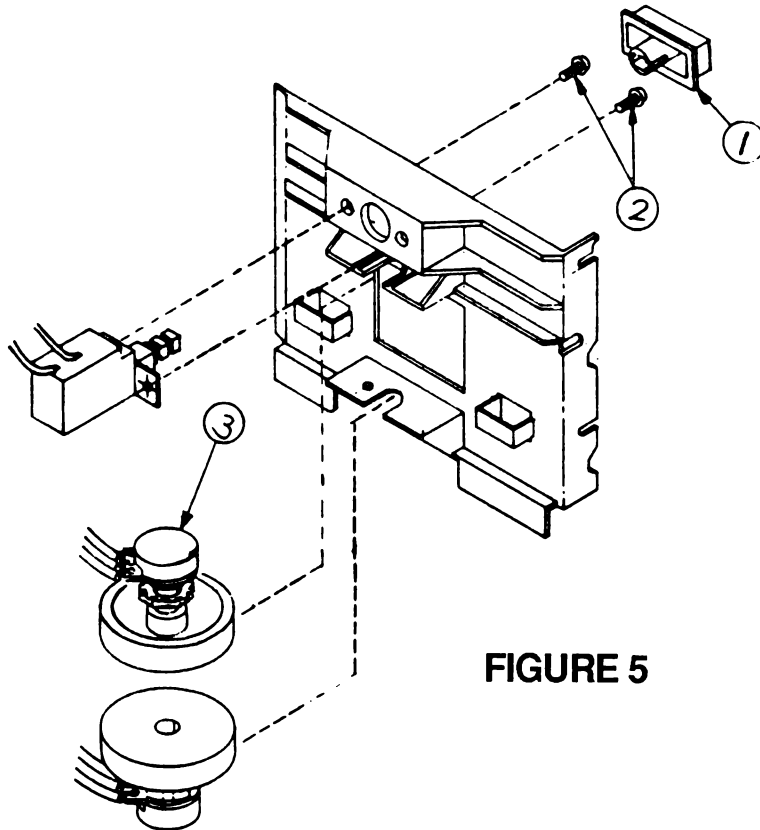

FIGURE 5
5. Locate the plastic ON/OFF switch button on the switch panel (Figure 5, #1) and pull it off the ON/OFF switch shaft. If necessary, use the small flathead screwdriver to pry off the switch.
6. Remove the two screws (Figure 5, #2) that secure the ON/OFF switch to the switch panel, and remove the ON/OFF switch.
7. Loosen the locking nuts (Figure 5, #3), that secure the brightness and contrast controls to the switch panel, until the controls can be removed.
1. Replace the brightness and contrast control potentiometers so that their metal tabs are inserted into their cutouts on the switch panel, and tighten the locking nuts (Figure 5, #3) that secure them to the switch panel.
3. Replace the two screws (Figure 5, #2) that secure the ON/OFF switch to the switch panel.
4. Replace the switch button (Figure 5, #1).